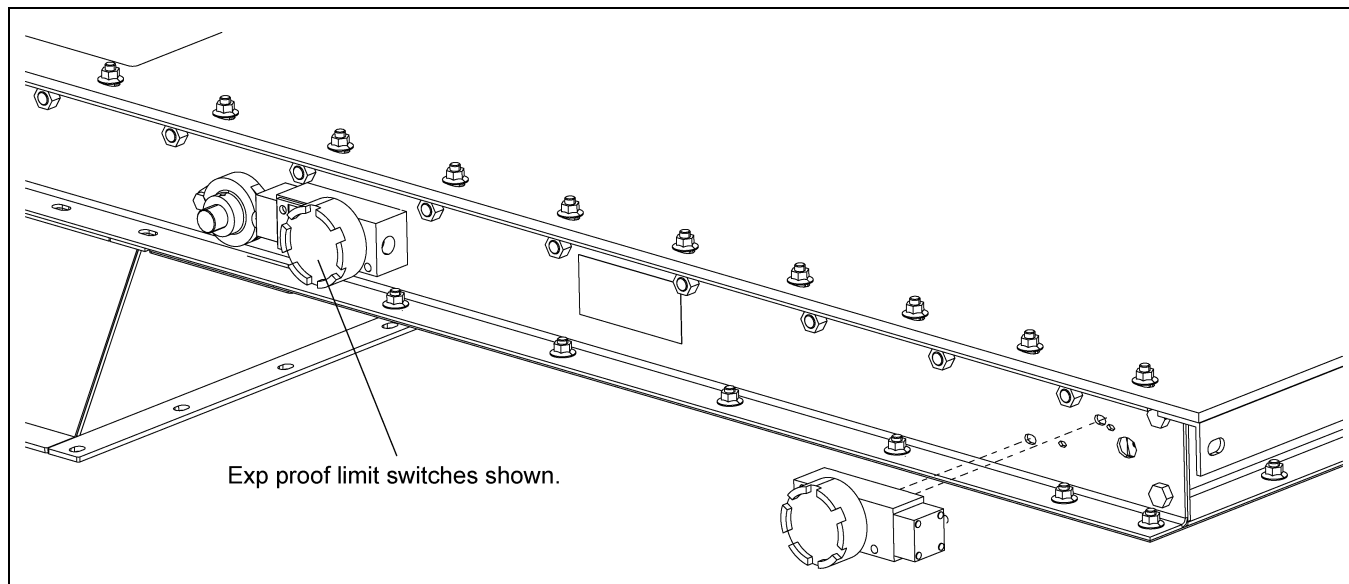

Figure 3I
1. In-line switches are installed on outside of gate frame on the same side. *(See Figure 3I.)*